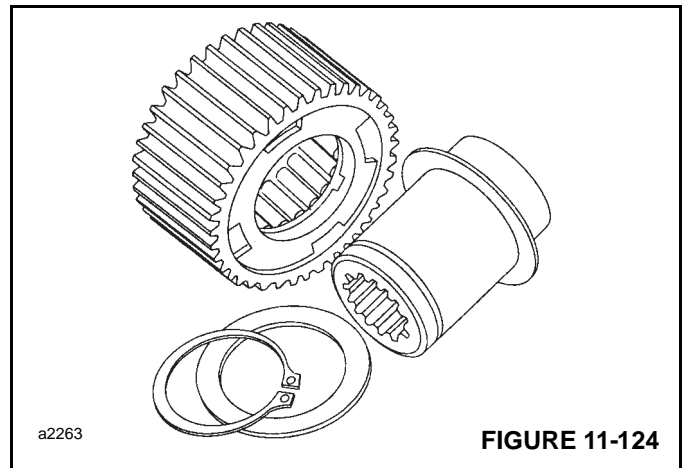

FIGURE 11-124
2. Pull the inner race out (Figure 11-124). Examine the race for scoring, wear, or indentations caused by the sprag cams.